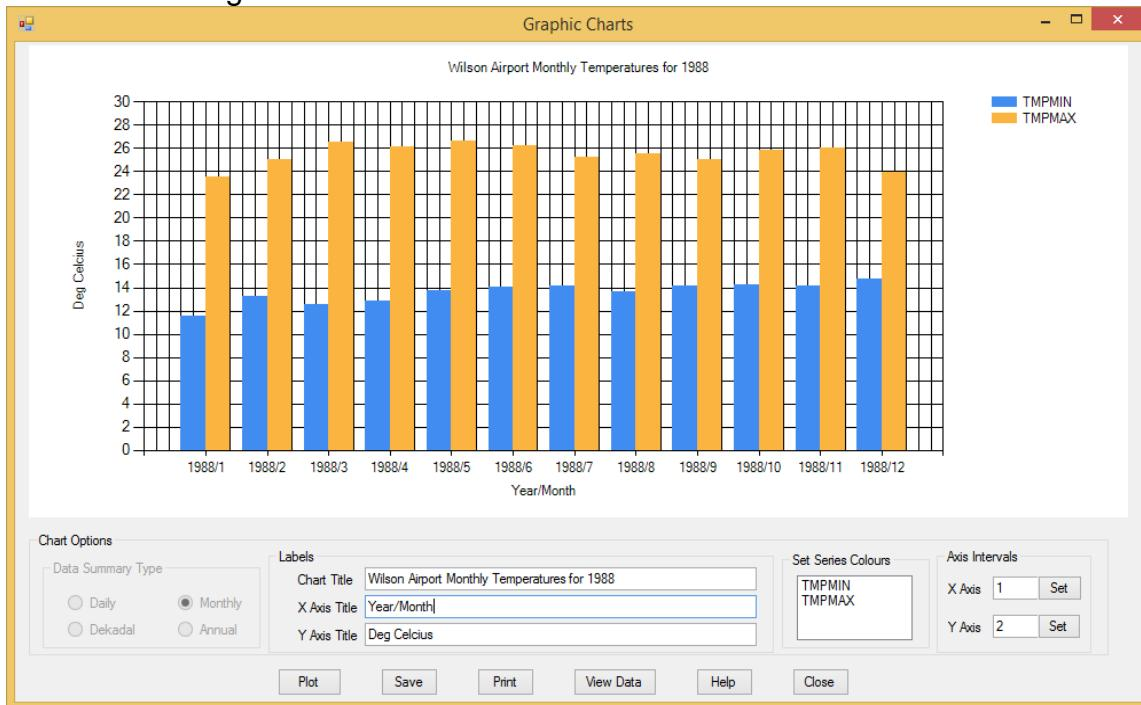

Figure 83: Temperatures Histograms
- (iii) The plotted chart can be formatted for **Labels**, **Colours** and **Axis Interval** values as shown in Figure 83.